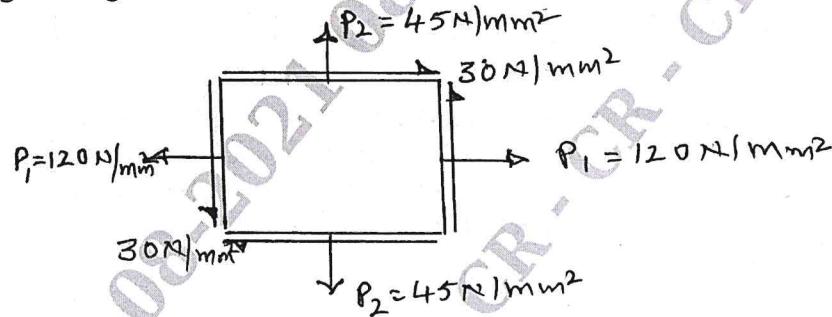

Fig.Q.3(c)
- c. An element in plane stress is subjected to stresses $P_1 = 120\text{N/mm}^2$ and $P_2 = 45\text{N/mm}^2$ and shear stress 30N/mm^2 as shown in Fig.Q.3(c). Determine the normal stress, shear stress, major principal stress, minor principal stress and maximum shear stress acting on an element rotated through an angle $\theta = 45^\circ$. (10 Marks)